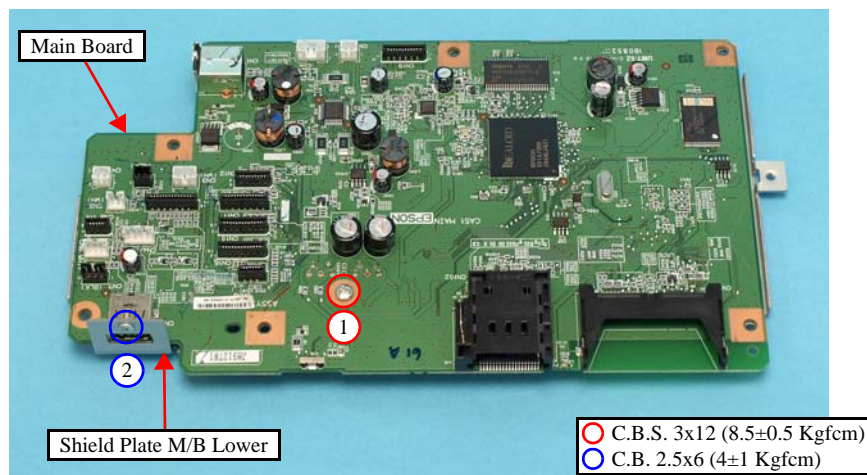

Figure 8-16. Removing the Main Board (2)
- When installing the Main Board to the Shield Plate M/B Lower, tighten the screw in the order given in Fig. 8-16.